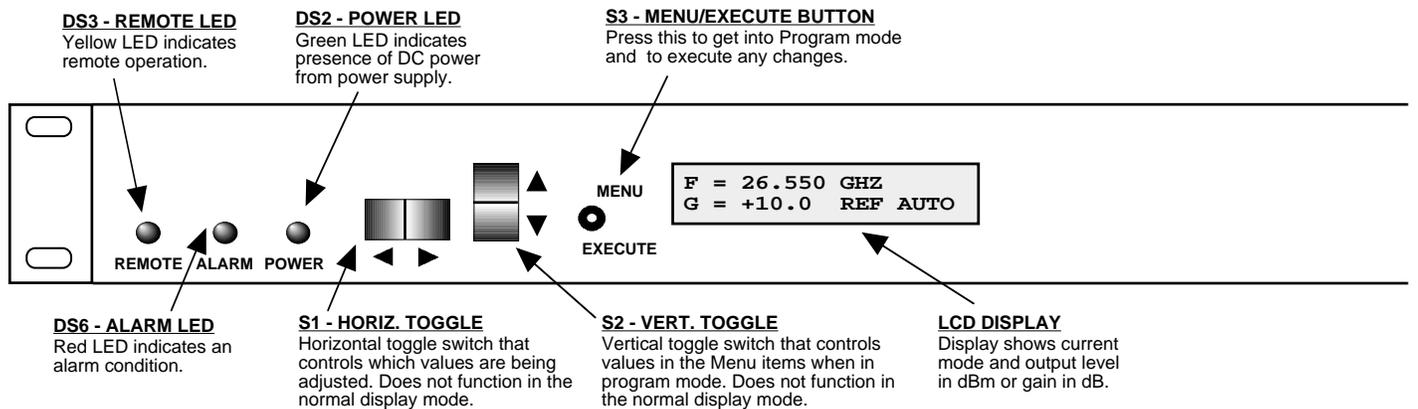

FIGURE 2.2 3115-277#-1200 Front Panel Controls and Indicators
Figure 2.2 shows the front panel controls and indicators.
5. Be sure DS2 (green, DC Power) is on and DS6 (red, Alarm) is off (Figure 2.2).
Alarm indications appear on the LEDs (see Figure 2.2).